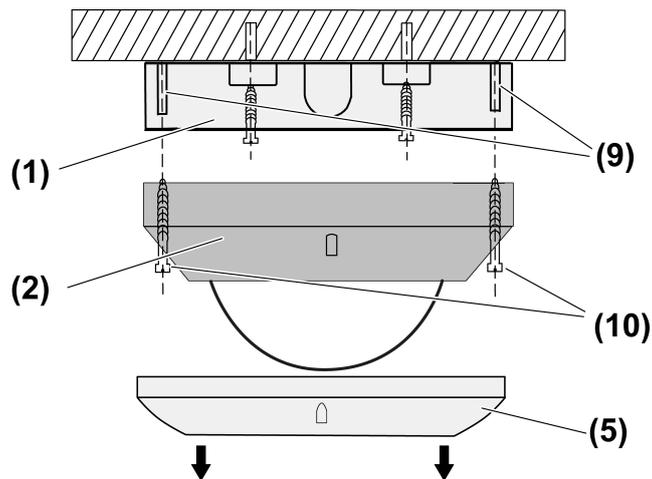
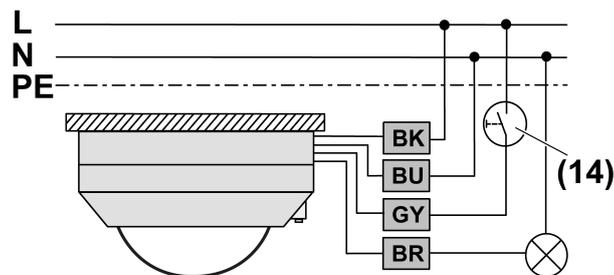
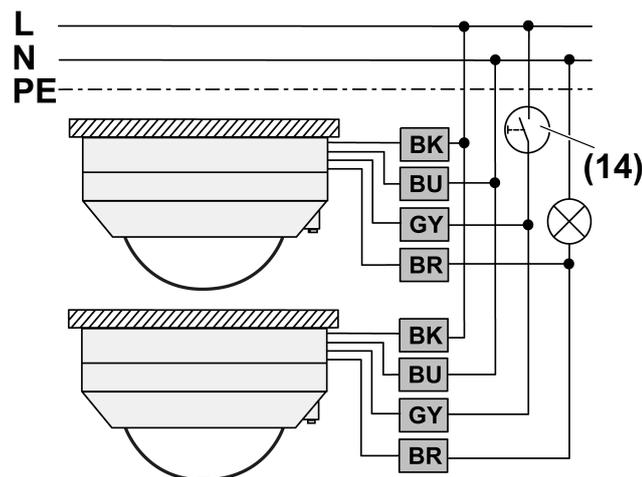

Figure 7: Mounting
Figure 9: Connection diagram, single device
Figure 10: Connection diagram, parallel circuit for expanding the detection field
- (1) Connection box
- (2) Sensor cover
- (5) Decor ring
- (9) Fastening pins
- (10) Screws
- Pull off decor ring (5) (see figure 7).
- Loosen screws (10) (see figure 7).
- Connect the sensor cover according to the connection diagram (see figure 9) or switch the sensor covers according to the circuit diagram (see figure 10).
- Connect optional push-button (14) (see figure 9) or (see figure 10). This is only necessary if manual operation is also desired.
- i** In the case of single devices, a 2-wire extension can be used as an alternative to the push-button (14).
- Screw the sensor cover (2) to connection box (1) with screws (10) and mounting pins (9) (see figure 7).